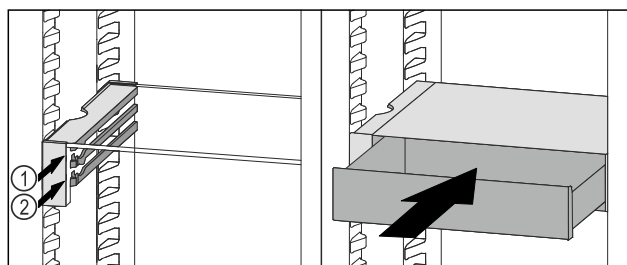

Fig. 102
- Place the VarioSafe drawer behind the stoppers on desired rib *Fig. 102 (1)* or *Fig. 102 (2)*.